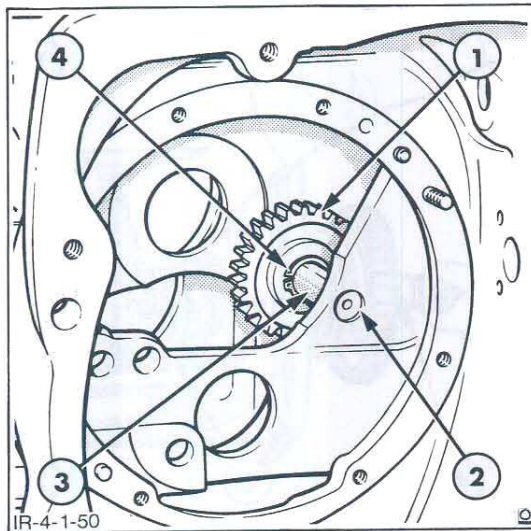
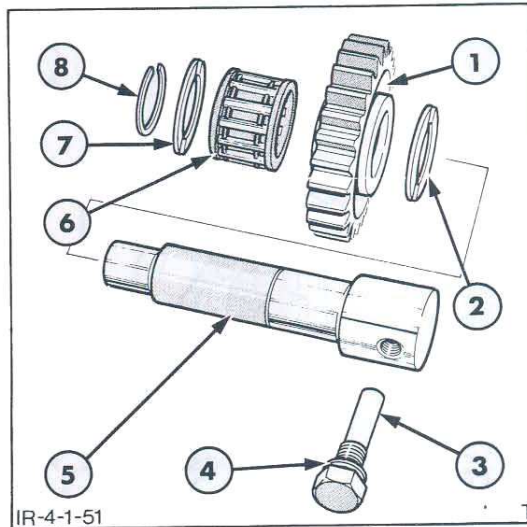

Figure 58
Figure 59
6. Remove the snap ring from reverse gear idler shaft, Figure 58, and slide the shaft rearwards from the transmission case retrieving the gear, bearing and thrust washers as the shaft is removed, Figure 59.